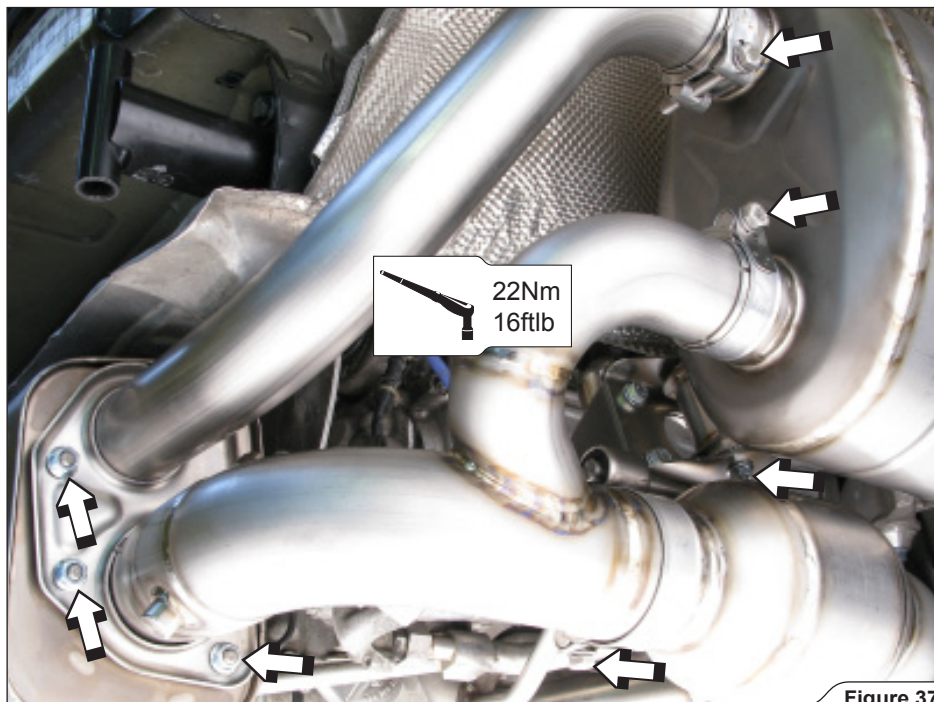

Figure 37
19. **For Evolution:** tighten all M8 nuts and bolts on Akrapovič central muffler flanges, metal clamps and side mufflers bracket to a specified torque (**Figure 37**). Repeat the process on both sides of the vehicle.